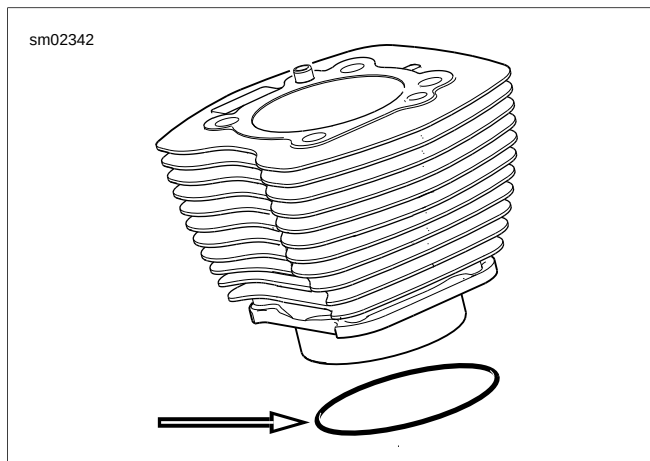

Figure 3-73. O-ring Seal For Cylinder
2. See Figure 3-73. Apply a very thin film of clean engine oil to **new** O-ring seal for the bottom of the cylinder liner. Install **new** O-ring seal.